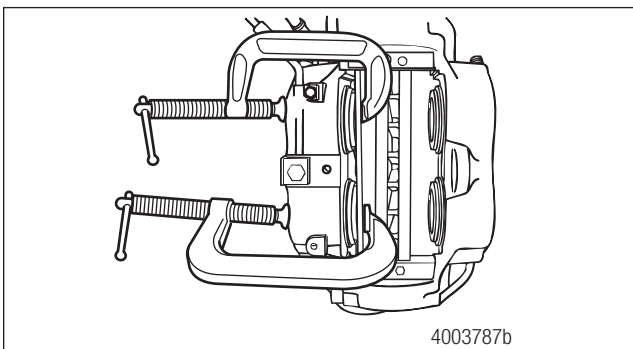

Figure 4.10
- Place a section of plate stock across the pistons to be removed. Use a C-clamp to hold the plate against the pistons on one side of the caliper where the pistons are to be removed. Figure 4.10.